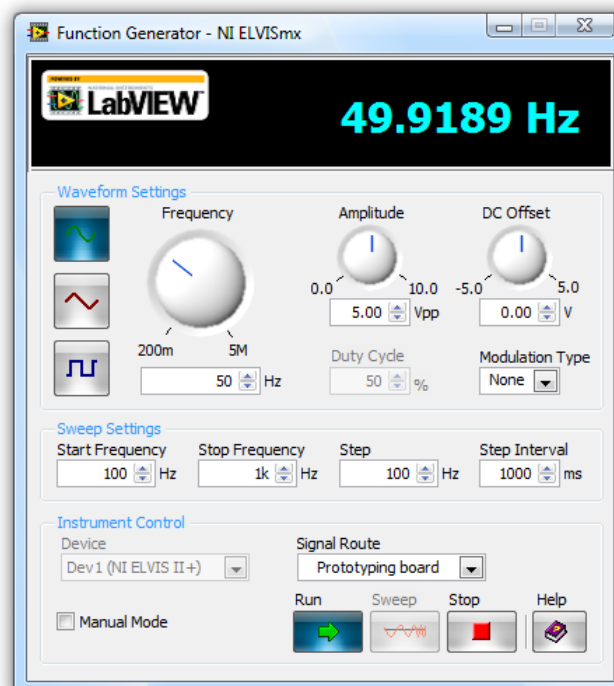

Figure 4.6: NI Elvis II Function Generator
2. Launch function generator and set 5Vpp, 50 Hz, Sine wave as shown in the figure 4.6.